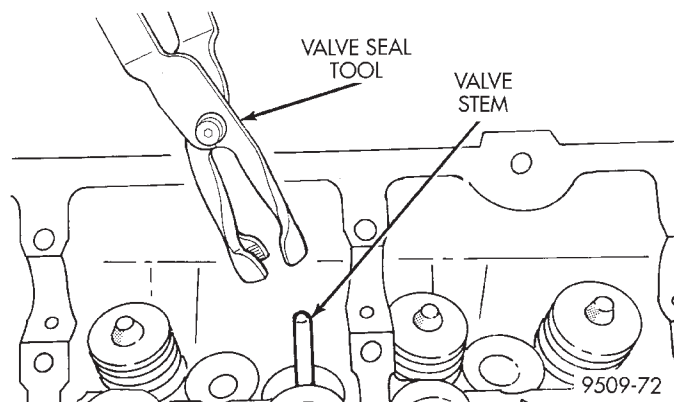

Fig. 33 Valve Stem Oil Seal Tool
(5) Remove valve spring.
(6) Remove valve stem seal by using a valve stem seal tool (Fig. 33).